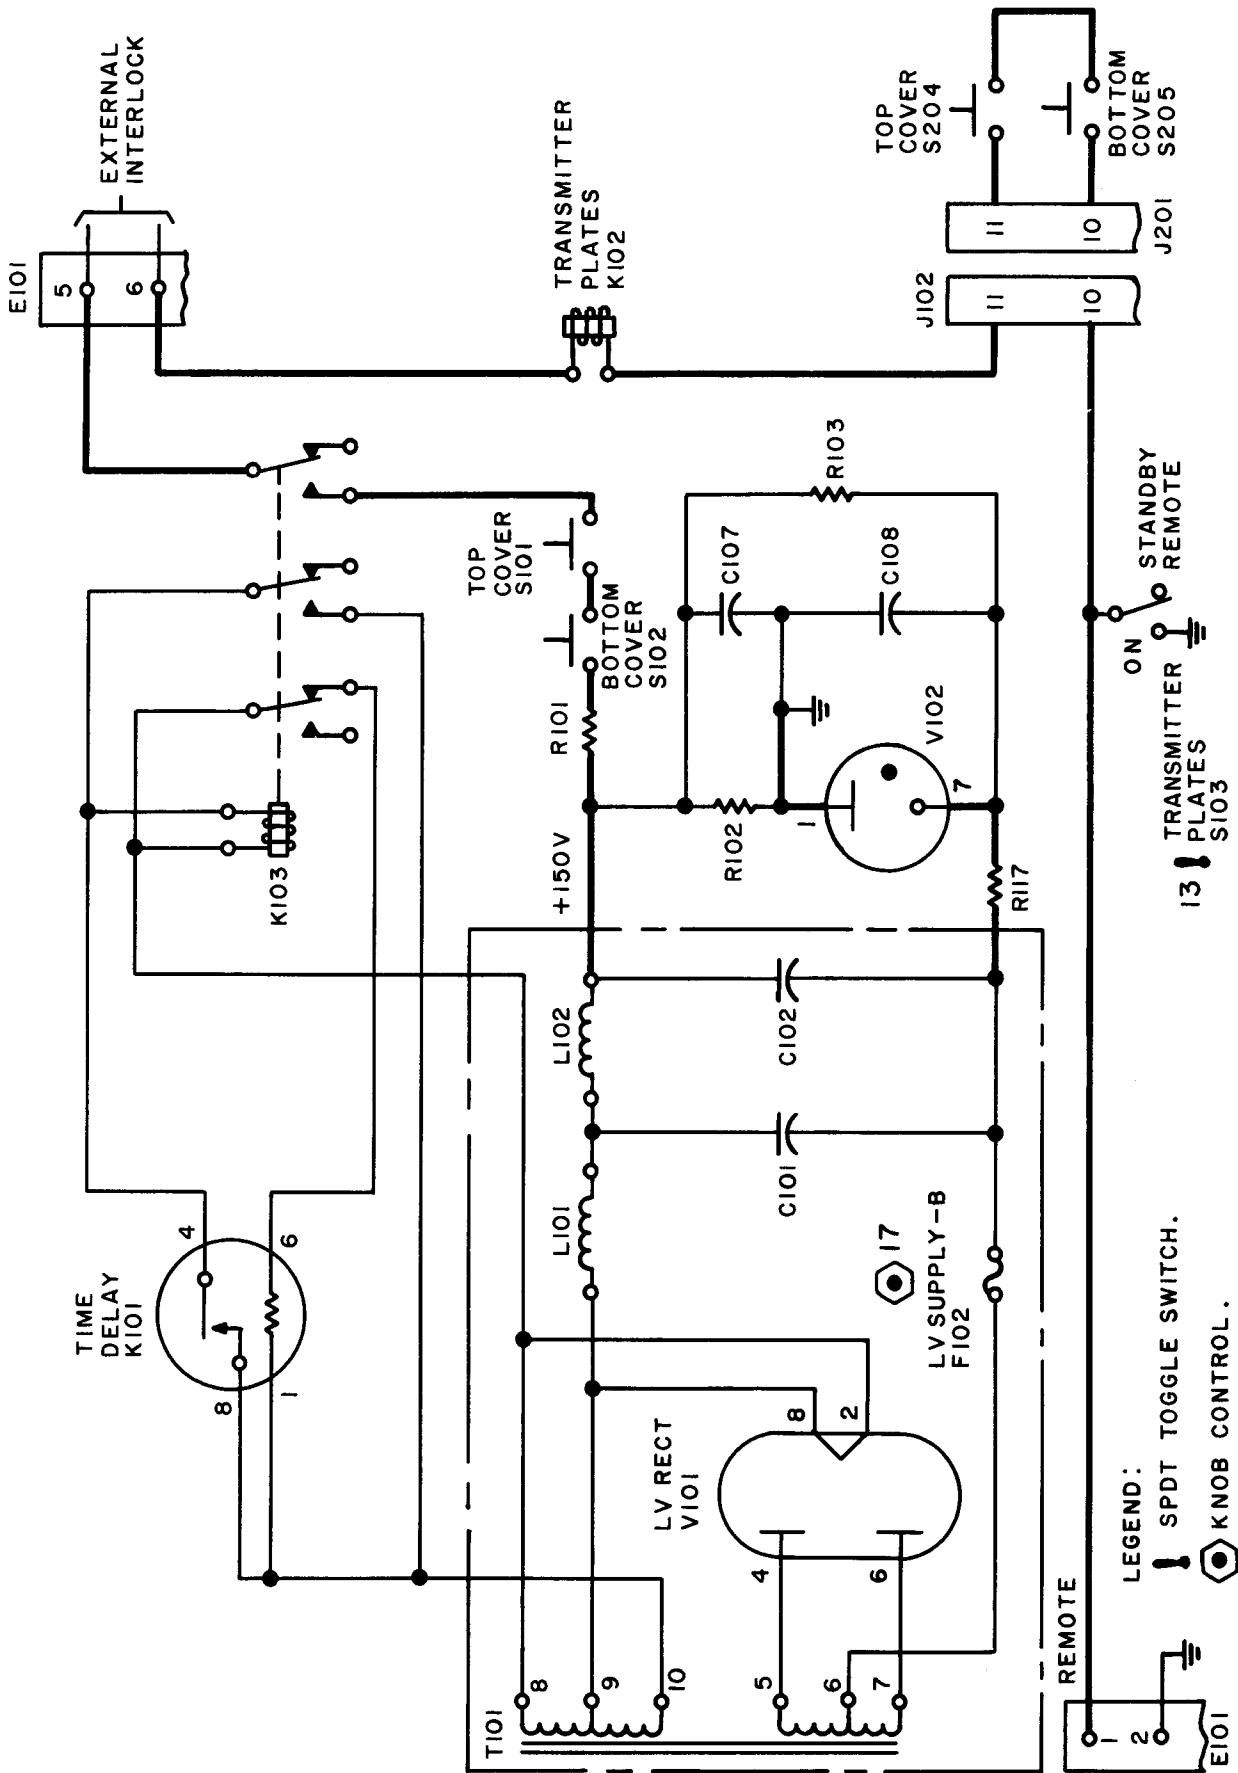

Figure 4-8. Simplified Schematic, Interlock Circuit, PAL-350
h. INTERLOCK CIRCUIT. (See figure 4-8.) - A number of interlock switch circuits are located throughout the PAL-350. Unless all these micro-switches are closed, the PAL-350 will not operate. Figure 4-8 indicates the various interlocks as well as their "series" circuit.